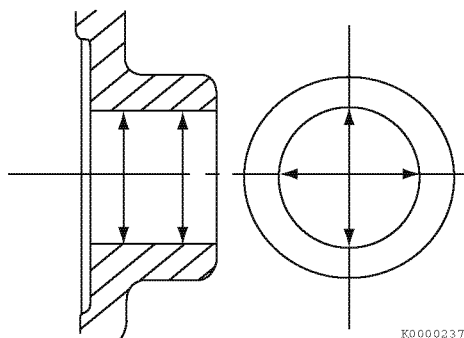

Figure 6-52
6. Measure the diameter of the wrist pin bore on both sides of the piston (**Figure 6-52**). See *Piston on page 6-9* for specifications. Record the measurements.